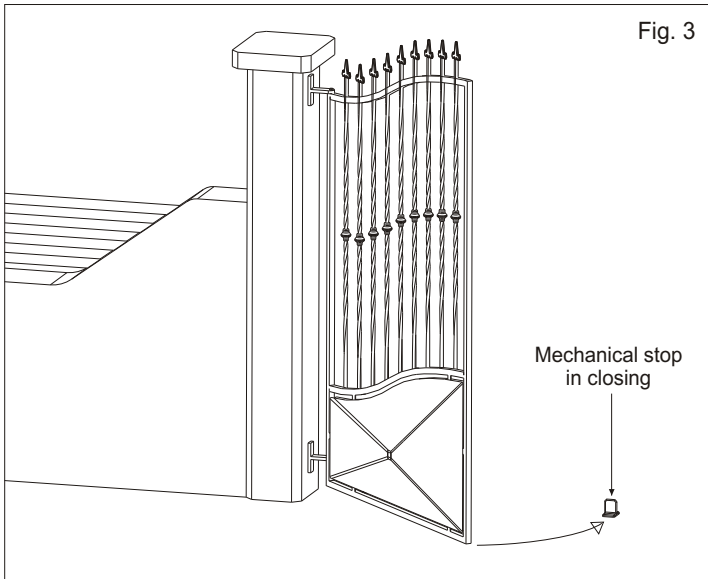

Fig. 3
- E.** in case of leaf length superior of 70,9 inches and 330,7Lbs of weight, it is recommended to fix to the ground a mechanical stop in closing (Fig. 3).